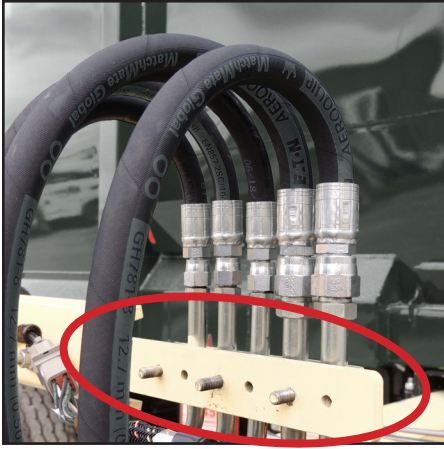

Figure 14
25. Use a 1/2" socket wrench to remove the nuts from the stauff clamps on the bracket holding the hoses to the mount (on the upper hoses) (Figure 14). Retain the nuts.